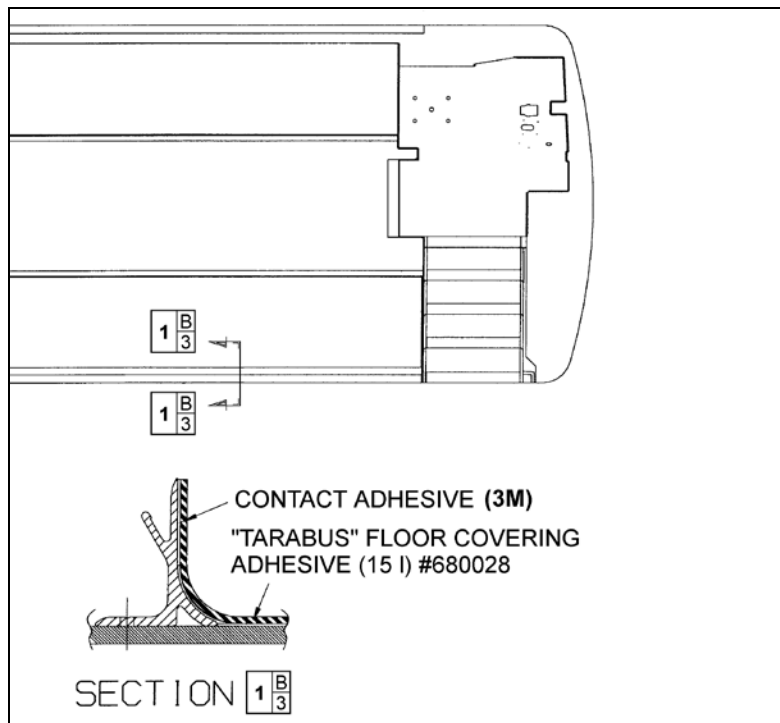

FIGURE 85: TARABUS FLOOR COVERING ADHESIVE APPLICATION
6. Apply floor covering adhesive (680028) onto plywood using a serrated spreader with 1/8-inch serration. If required, apply contact adhesive (3M) (684655 or 684654) onto aluminum molding and also onto section of floor covering, which will be in contact with molding (refer to Figure 85).